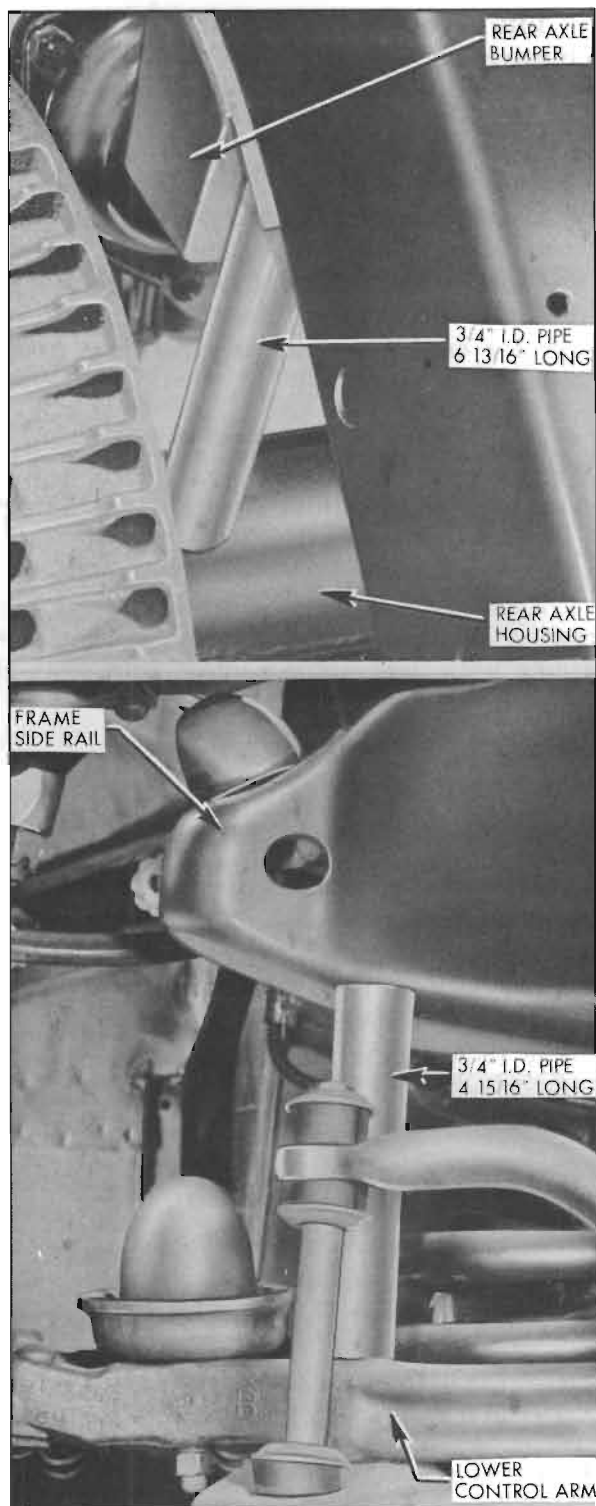

Figure 7-18—Alignment Pins in Place
8. Car must be on level surface. Place a piece of $\frac{3}{4}$ " I.D. pipe $4\frac{5}{16}$ " long between frame and lower control arm at each front wheel as shown in figure 7-18. Position the pipe over the front outer spring seat rivet and make sure it is standing vertical. Use sand bags or other suitable weights when necessary to hold car down on pipes.
met, a $\frac{3}{4}$ " I.D. pipe pin $6\frac{13}{16}$ " long should be placed between the axle housing and the axle bumper stop as shown in Figure 7-18.
WITH ALIGNMENT PIPE PINS IN PLACE. SEE FIG. 7-18